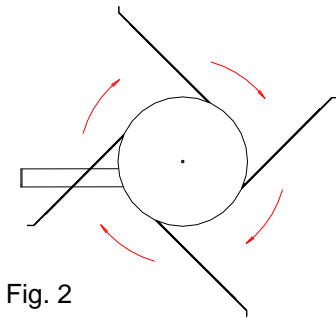

Fig. 2
- 8.) Fit the spring arms to the agitator. The agitator rotates clockwise (Fig. 2). Fit the longest arms opposite one another. The spring arms (I, Fig. 4) must be 15-20 mm above the outfeed auger at the point where they pass over it. Do not tighten the bolts (H, Fig. 4) on the spring arms. The agitator feet (J, Fig. 4) must be adjusted so that the longest arm is 3-4 cm clear of the floor at its lowest point (K, Fig. 4).